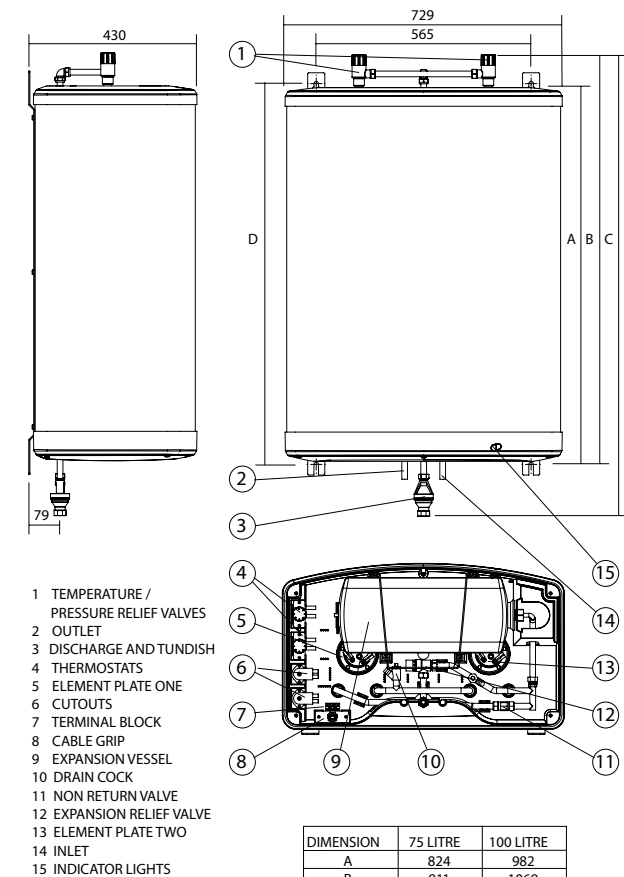

Figure1: Multipoint Water Heater - Dimensions and Important Features
- 2.2 Enough space should be left below the unit for pipe connections and above the unit for access to the Temperature/Pressure Relief Valves (400 mm minimum). Refer to Figure 1 and the Dimensions Table to determine a suitable position for the heater.
- 3.2 Using Figure 1 and the dimensions table as a guide mark the positions of the fixing points. Drill and plug the wall with suitable fixings.